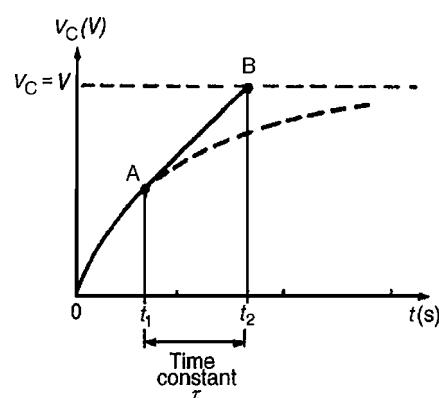

Figure 18.3
- (a) If a constant d.c. voltage is applied to a series connected  $C - R$  circuit, a transient curve of capacitor voltage  $v_C$  is as shown in Fig. 18.3(a).
- (b) With reference to Fig. 18.3, let the constant voltage supply be replaced by a variable voltage supply at time  $t_1$  seconds. Let the voltage be varied so that the **current** flowing in the circuit is **constant**.